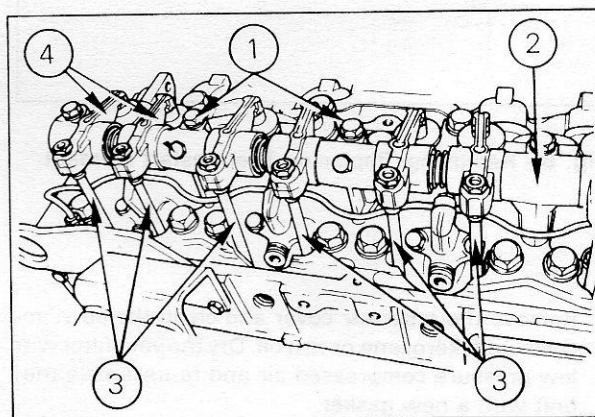

Fig. 10 - Removing Rocker Shaft Assembly
### Operation (Fig. 10)
3. Loosen each rocker shaft pedestal retaining bolt approximately one turn at a time until all are loose, then remove them (Fig. 10).